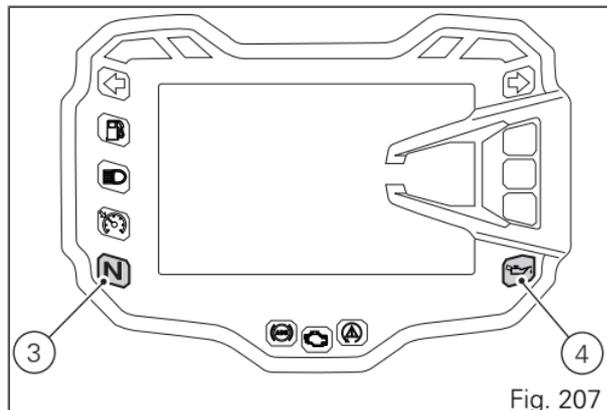

Fig. 207
The red oil pressure warning light (4, Fig. 207) should go out a few seconds after the engine has started. The engine will shut off by turning the red button (1) on the handlebar to RUN OFF. To turn on the "Hands free" system and all electronic onboard systems, refer to page 220 "Hands Free System".